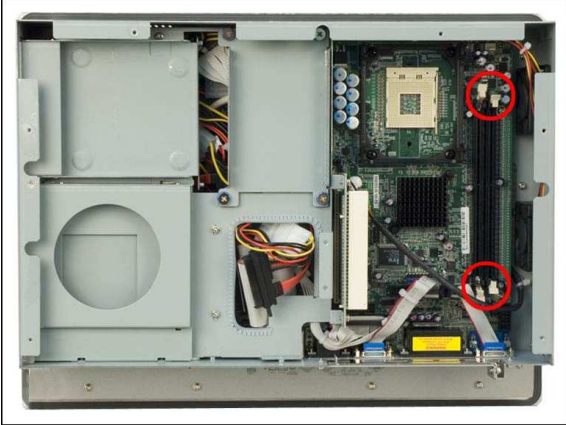

Figure 4-7: DIMM Socket Clip Locations
Step 2: Locate the DIMM. It is on the motherboard near the top of the IVC-15PC-P flat screen PC. Push the white clips on the side of the DIMM down. The DIMM is dislodged from the DIMM socket. (See **Figure 4-7**)